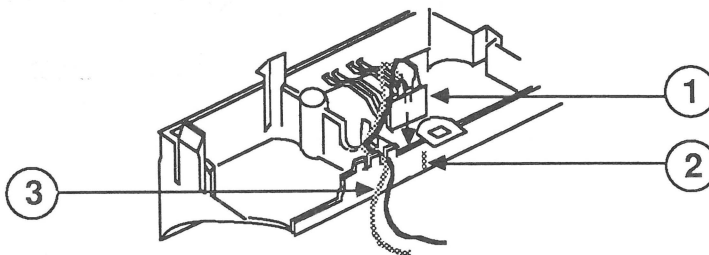
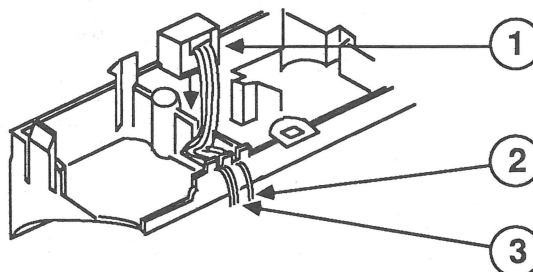

FIGURE 44
FIGURE 45
There are two paper sensors: one is a mechanical paper-out sensor (Figure 44, #1), and one is an optical paper-out sensor (Figure 45, #1). For information on the compatibility of these sensors with the main CPU PCBs, refer to Section 4, Additional Procedures.
Insert a small flatblade screwdriver into the notch that holds the sensor in place (Figure 44, #2).
- a) For the mechanical sensor: route the wires as shown in Figure 44, #3.
- b) For the optical sensor: route the black-and-yellow wire (shown in Figure 45, #3) and route the single wire (shown in Figure 45, #2).